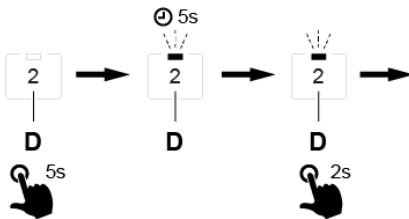

Fig. 11
- To reprogramme the operating mode to mode 2, press and hold down button D for five seconds. See Fig. 11. Release the button when the LED starts flashing.